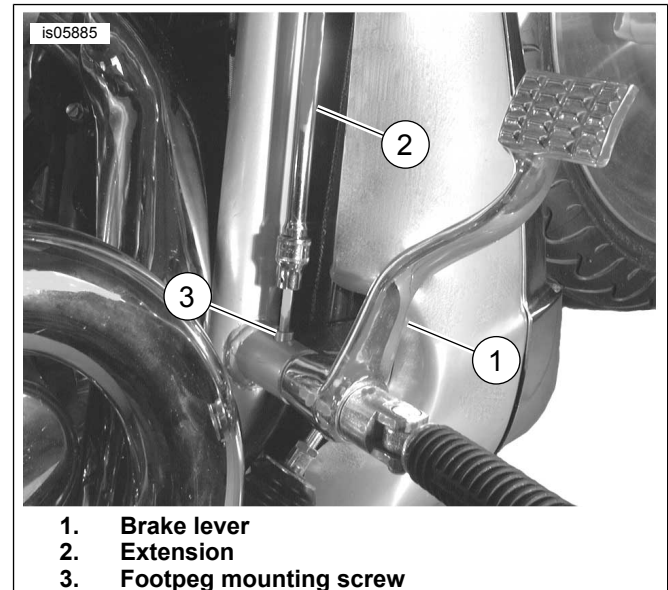

Figure 1. Remove Footpeg Mounting Screw
1. See Figure 1. Remove right side footpeg mount screw securing footpeg mount to frame. Save screw for installation.